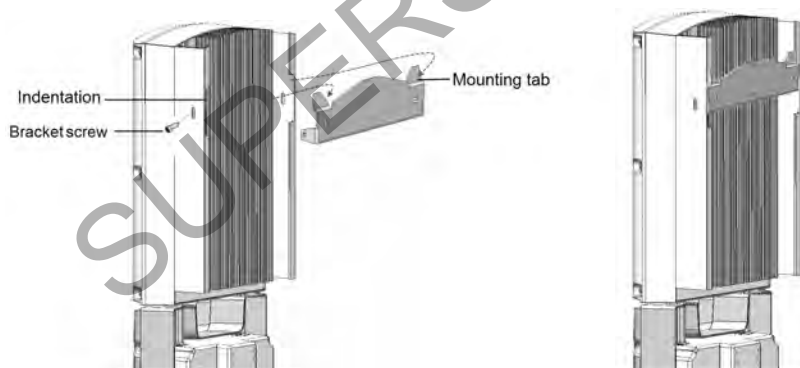

Figure 13: Hanging the inverter on the bracket
- Ensure that the flat edge of the bracket is at the bottom, as in *Figure 13*.
5. Hang the inverter on the bracket (see *Figure 13*): Lift the inverter from the sides, or hold it at the top and bottom of the inverter to lift the unit into place. Do not lift holding the StorEdge Connection Unit as it may be damaged.
8. Insert the two supplied screws through the outer heat sink fin on both sides of the inverter and into the bracket (see *Figure 13*). Tighten the screws with a torque of 4.0 N\*m / 2.9 lb.\*ft.